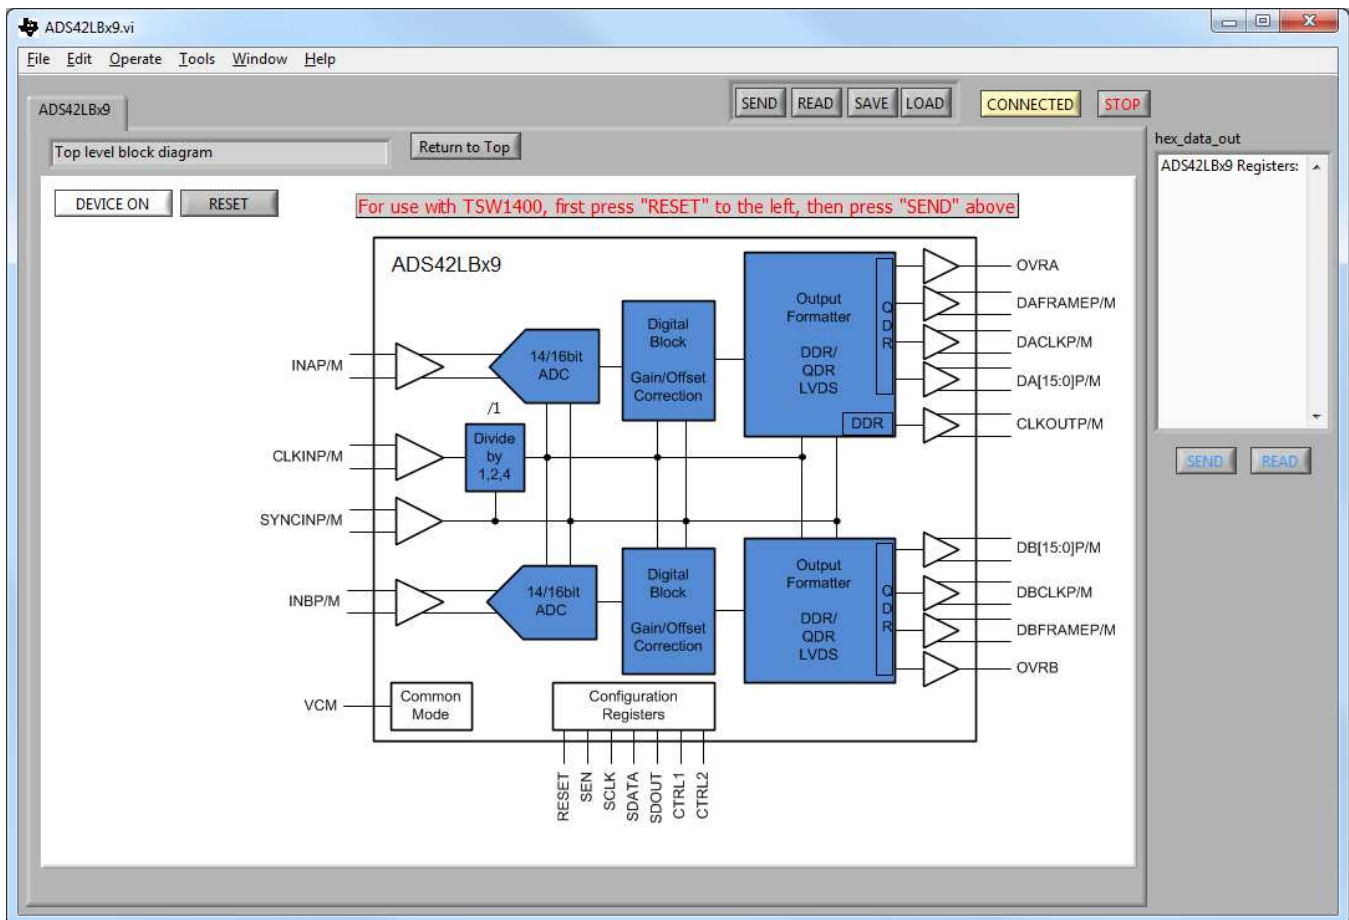

Figure 2. Top-Level Block Diagram Window of the ADS42LBx9 GUI
The software GUI allows full programming control of the ADS42LBx9 device. Figure 2 shows the GUI front panel which contains a block diagram of the ADS42LBx9. Clicking on the various blocks of the ADS42LBx9 allows configuration of the settings for that block. Detailed descriptions for each screen of the GUI are given in this section. Please refer to the ADS42LBx9 datasheet (SLAS904) for more detailed explanations of the register fields.
Figure 2 shows the top-level view of the GUI which contains the block diagram of the ADS42LBx9. The blue blocks can be clicked on to see the controls for that block. Along the top of the GUI are **SEND**, **READ**, **SAVE**, and **LOAD** buttons. The **SEND** and **READ** buttons write or read all of the registers of the ADS42LBx9. The **SAVE** and **LOAD** buttons can be used to save or load a text file of the registers. The flashing **RESET** button can be clicked to reset the USB port connection. It reads **CONNECTED** when the GUI is successfully connected to the EVM. On the right side is a white text box that shows the registers as they are written to the device, it also shows the results of a read command.
3. By default, the GUI controls are setup for use with the TSW1400. In order to program it in the correct mode, first press the **RESET** button to the top-left of the block diagram (Figure 2).